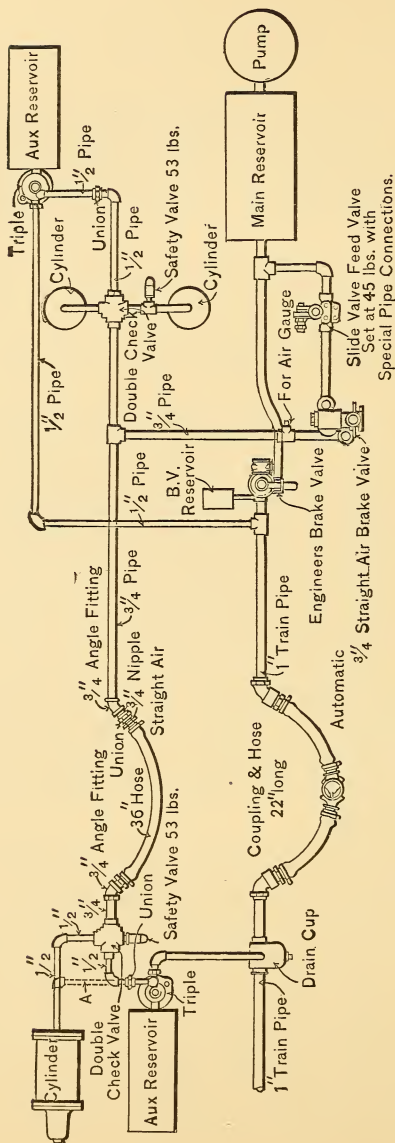
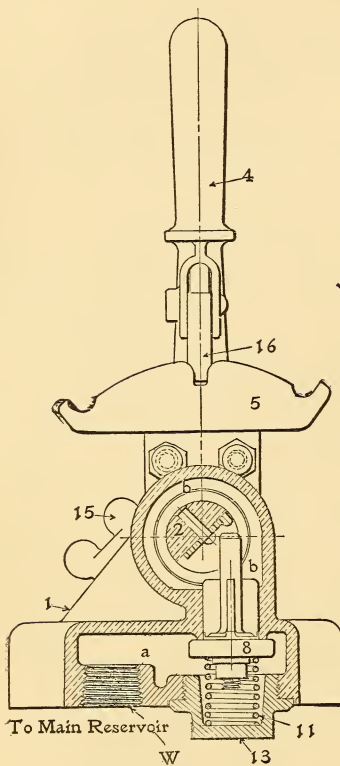
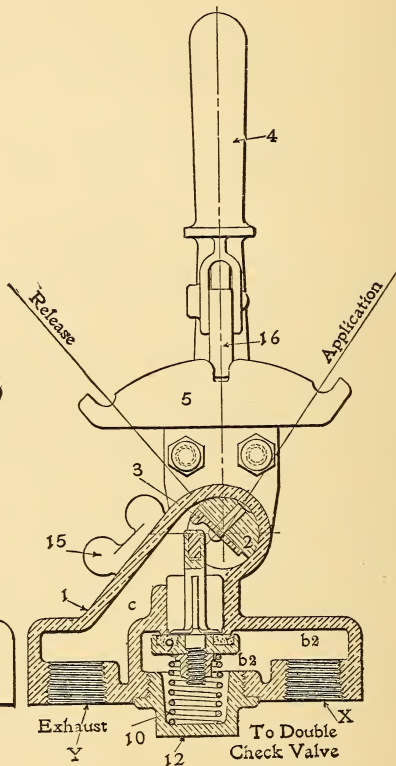

FIG. 62.—WESTINGHOUSE COMBINED AUTOMATIC AND STRAIGHT-AIR BRAKE.
FIG. 64.
FIG. 65.
A. As illustrated in Fig. 62, it is necessary to apply on the engine a Slide-Valve Reducing-Valve, a $\frac{3}{4}$ " Straight-Air Brake Valve, a Safety Valve set at 53 pounds, and a double check valve. On the tender the additional parts consist of a double check valve, a safety valve set at 53 pounds, and one 36-inch hose, with union, angle fittings and nipples.
Q. What is the object of the safety valve (Fig. 62) ?
Q. What is the valve shown in Figs. 64, 65, 66, 67 and 68, and with what is it used ?
A. Fig. 66, a side view of the outside of the valve; the view (Fig. 68) is a horizontal cross-section through *FF* (Fig. 66); Fig. 67 is a vertical cross-section; Fig. 64, an end section showing the valve that controls the flow of pressure coming from the main reservoir; and Fig. 65 is an end section through a plane which permits the valve controlling the exhaust to be seen.
A. By the handle 4 acting through the shaft 2. As the handle is moved the shaft starts to rotate, thus causing one of the tappet pieces 3 (Figs. 64 and 65) to engage the stem of either valve 8 or 9, according to the direction in which handle 4 is moved. If moved to the right (Fig. 65) valve 8 is unseated; if moved to the left valve 9 (Fig. 65) is unseated. The shaft, as shown in Figs. 64, 65 and 67, is cut away in two places; at the bottom of each of the slots a tappet piece is fastened with two rivets.
A. As shown in Fig. 65 it is on lap; moved to the right it is in application or service position; and to the left it is in release position.
A. It has three and, as indicated, they connect with the main reservoir at *W*; the trainpipe, or the one leading to the double check valve, at *X* (Fig. 65); and to the exhaust at *Y*.
A. When the valve handle is moved to the right the tappet piece in the shaft engages the stem of valve 8, forcing the valve from its seat against the pressure beneath it and the tension of spring 11. Air which comes from the main reservoir through the reducing valve (Fig. 62) enters the brake valve at *W* (Fig. 64) and passes up by the unseated valve 8 into chamber *b*, thence through port *b*¹ (Fig. 67) into chamber *b*² and out at *X* (Fig. 65) into the pipe which leads to the double check valves (Fig. 62), and through these valves to the brake cylinders.
A. Spring 10 (Fig. 65), together with the pressure in chamber *b*², forces valve 9 to its seat and it thus prevents the escape of air to the atmosphere.
A. Valve 9 is forced from its seat and air from the brake cylinder comes back through the double check valves (Fig. 62), enters at *X* (Fig. 65) into chamber *b*², passes by the unseated valve 9 into chamber *c*, thence to the atmosphere at *Y*, and thus releases the air from the brake cylinders.
A. Release position; so placed any slight leakage of main reservoir pressure by the seat of valve 8 (Fig. 64) can not creep on the brakes, since the air would escape direct to the atmosphere by the unseated valve 9.